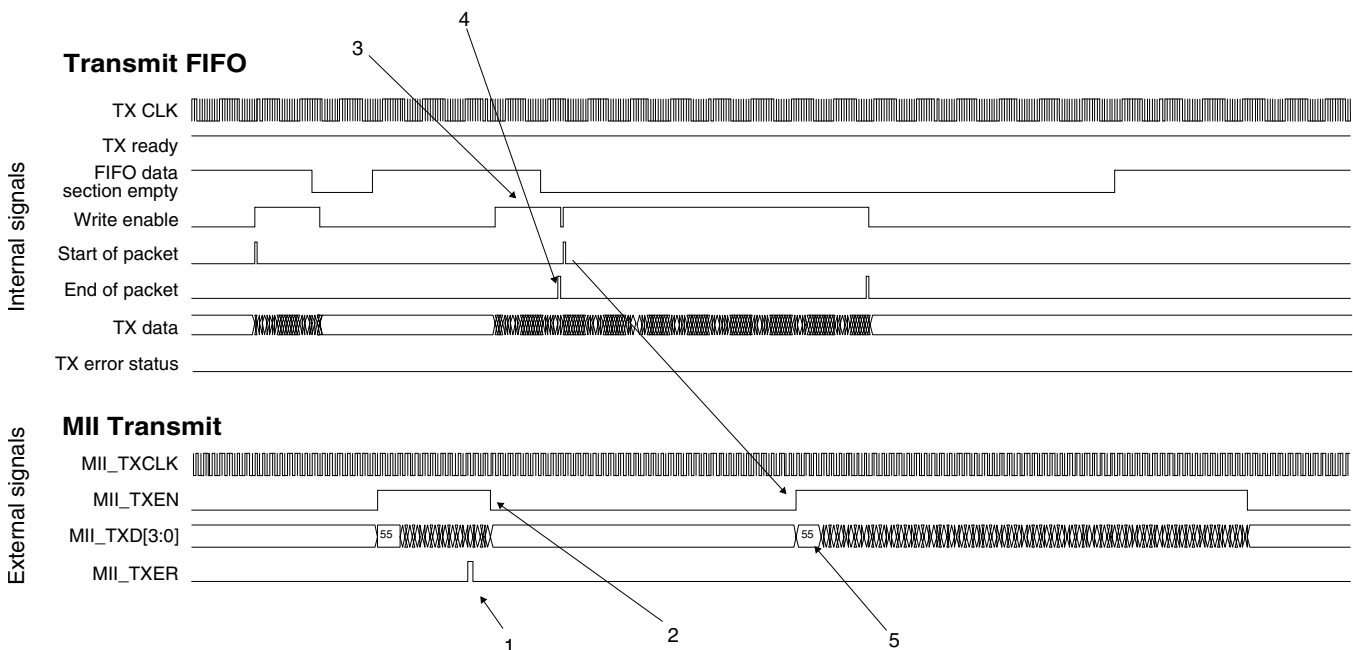

Figure 47-66. Transmit FIFO underflow protection
- Asserts the MII error signal (MII_TXER) (1 in Figure 47-66) to indicate that the fragment already transferred is not valid
- Deasserts the MII transmit enable signal (MII_TXEN) to terminate the frame transfer (2)